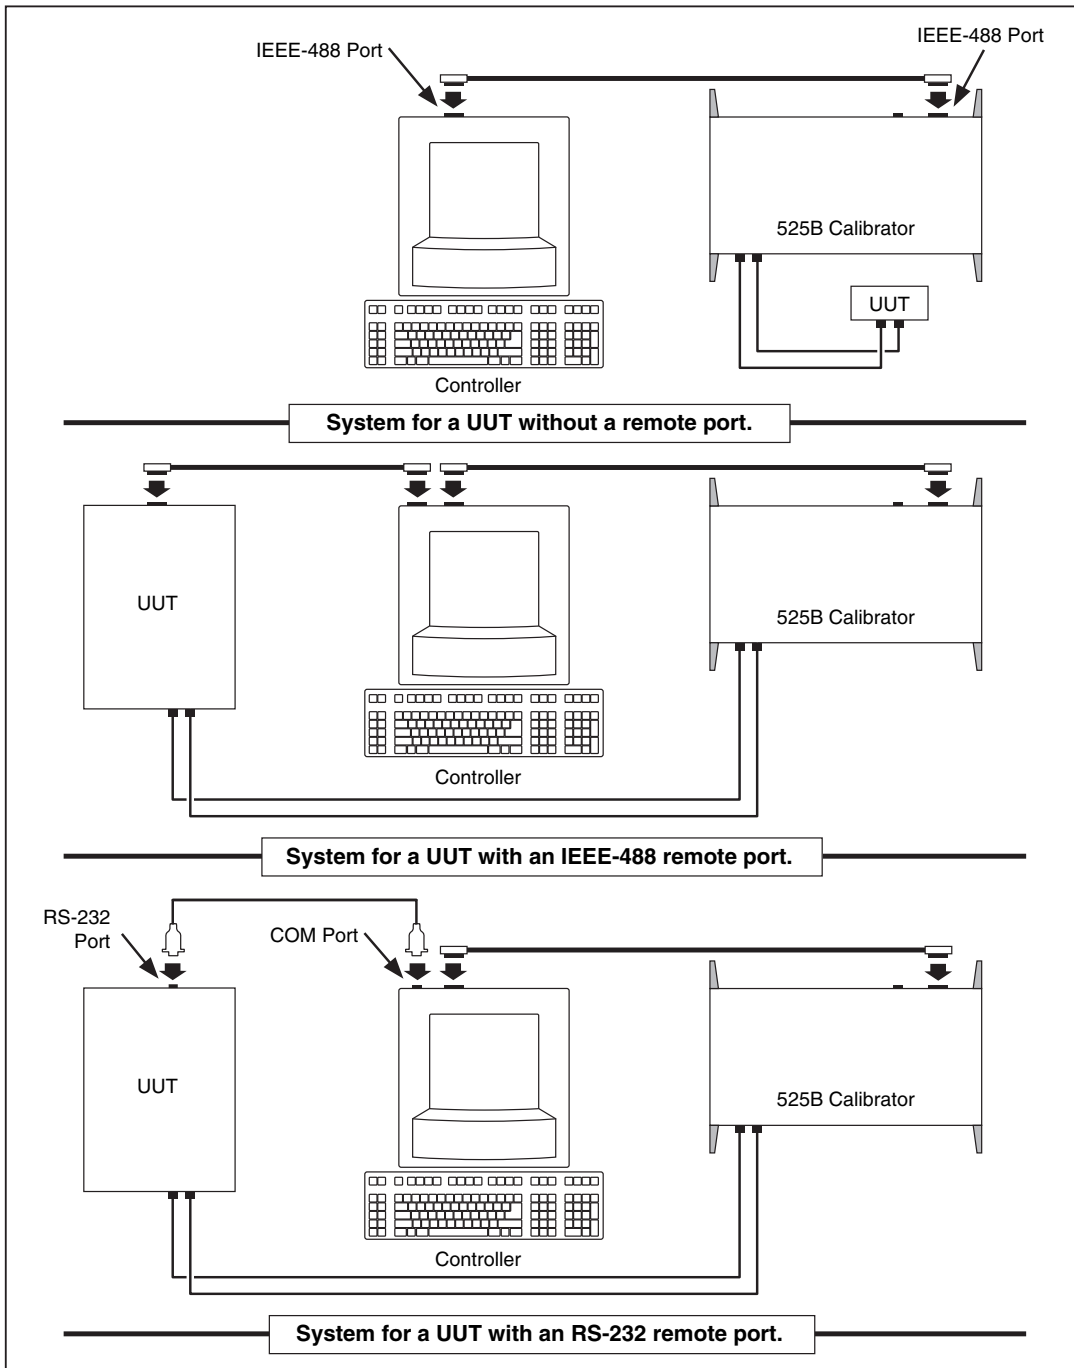

Figure 4-3. Typical IEEE-488 Remote Control Connections
IEEE-488 The IEEE-488 parallel port is usually used in larger control and calibration systems. An IEEE-488 system has the ability to serve multiple Calibrators and multiple UUTs. Also, parallel system throughput is faster than serial system throughput. The controller in an IEEE-488 system is typically a Windows® compatible personal computer (PC) equipped with one or more IEEE-488 ports. You can write your own computer programs for system operation using the command set, or you can purchase optional Fluke calibration software MET/CAL. Typical IEEE-488 configurations are shown in Figure 4-3. The configuration showing the PC with two IEEE-488 ports is used with MET/CAL, which prefers UUTs on a separate IEEE-488 port. You can also “piggy-back” the connectors on a single IEEE-488 port.
The Calibrator is fully programmable for use on the IEEE Standard 488 interface bus. The IEEE-488 interface is also designed in compliance with supplemental standard IEEE-488.2, which describes additional IEEE-488 features. Devices connected to the IEEE-488 bus are designated as talkers, listeners, talker/listeners, or controllers. Under remote control of an instrument, the Calibrator operates as a talker/listener. Figure 4-3 shows typical IEEE-488 remote control connections.